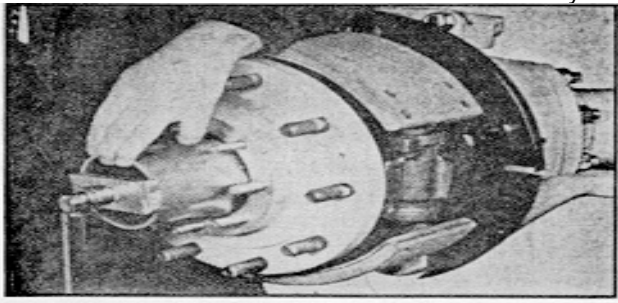

Fig. 4
7. Remove the wheel bearing lock nut (See fig. 4) and lockwasher from spindle. Loosen wheel bearing adjustment nut.
8. Tighten wheel bearing adjusting nut while turning the hub, back off 1/2 turn and then tighten to 50 ft. lbs. torque. (See fig. 4) Back off 1/4 turn. Install the wheel bearing lockwasher with tang in the spindle keyway and one side or the other toward the bearing locknut in such a way as to fit over the dowel.